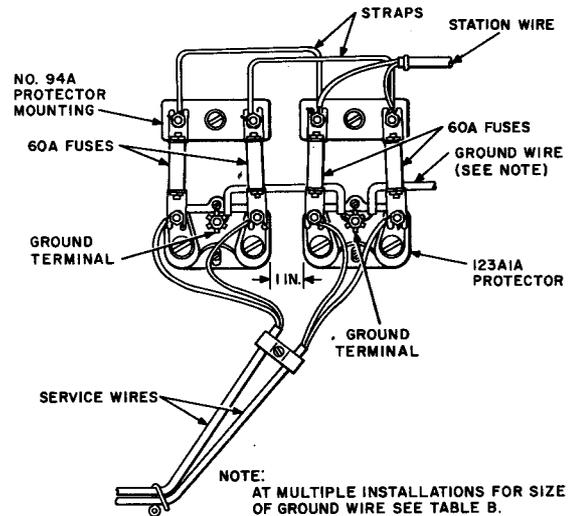

Fig. 78—Fuseless Protectors Used for Bridging Service Wires on Battery Feed Circuits
11.11 Fig. 78 shows two battery feeder pairs terminated on fuseless station protectors equipped with 60A fuses and bridged to one station wire.